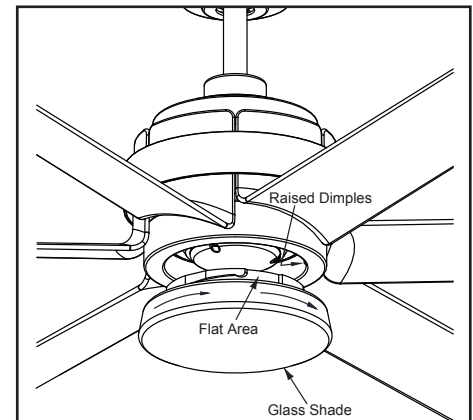

Figure 19
5. Place the glass bowl into the light kit pan, aligning the three flat areas on the top of the glass bowl with the three raised dimples in the light kit pan. Turn the glass bowl clockwise until it stops. (Figure 19)